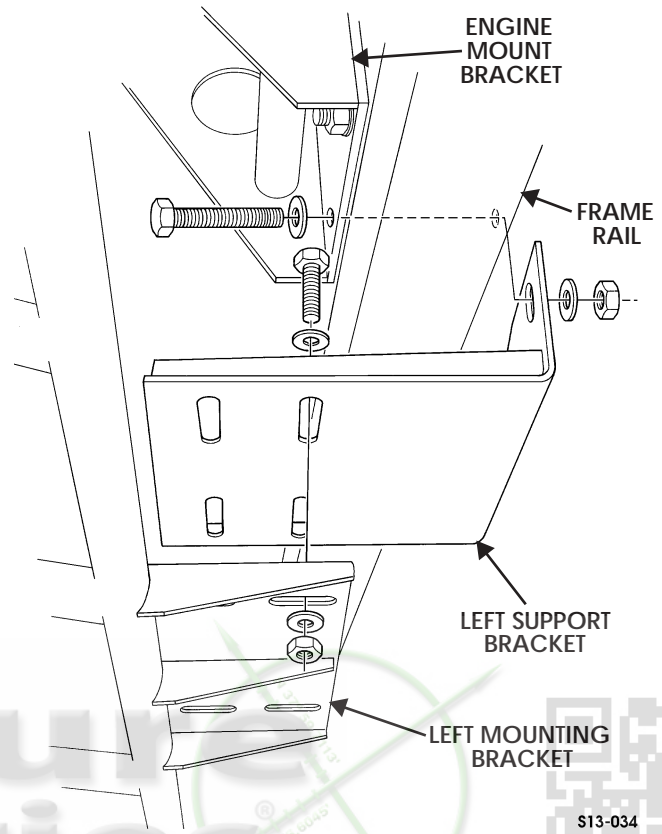

Figure 13-36: Left Support Bracket
2. Remove locknut, washer, capscrew, and washer securing left support bracket to engine mount bracket and frame rail. Discard locknut (Figure 13-36).
4. Install left support bracket on left mounting bracket with four washers, capscrews, washers, and locknuts. Do not tighten locknuts (Figure 13-36).